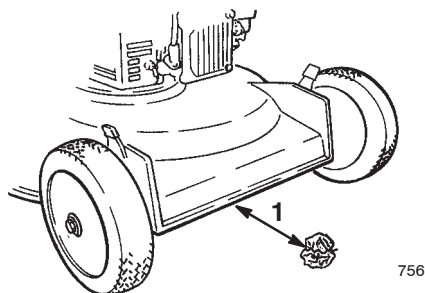

Figure 12
5. Take a half sheet of newspaper and crumple it into a ball small enough to go under the deck (about 3 inches or 76 mm in diameter) as shown in Figure 12.
6. Place the ball of newspaper 5 inches (12.7 cm) in front of the lawn mower (Fig. 12).
- Place the ball of newspaper 5 inches (12.7 cm) in front of the lawn mower (Fig. 12).